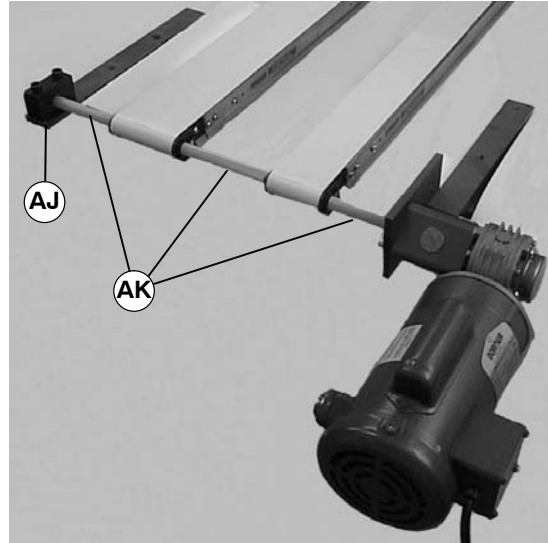

Figure 18
1. Disassemble support (AJ of Figure 18) and remove hex shaft and shaft guard sections (AK).
6. Re-assemble hex shaft with guards and support (T of Figure 18).
1. Disassemble support (AJ of Figure 18) and remove the hex shaft and shaft guard sections (AK).